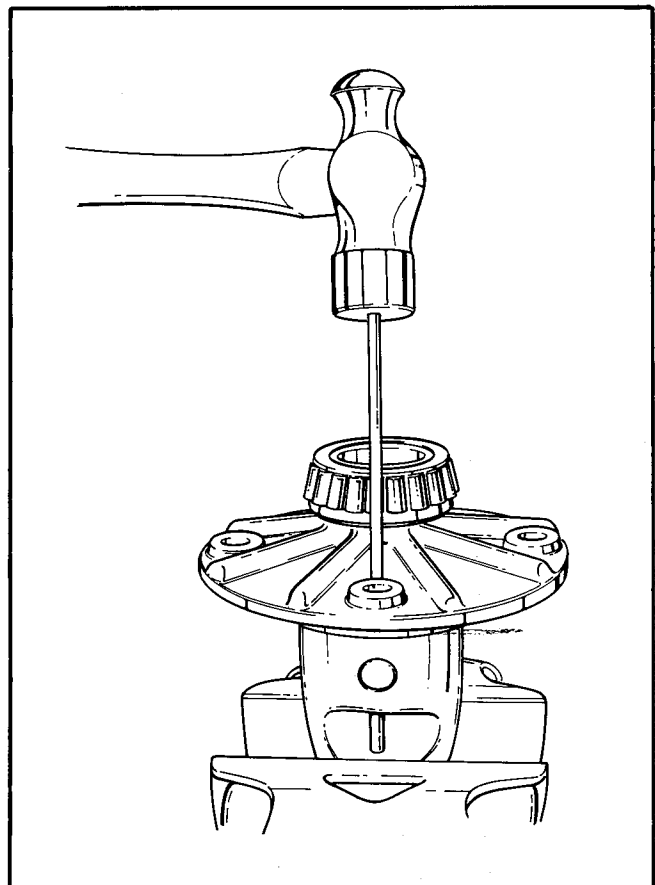

Figure 30 – Installing Lock Pin
- d. Align lock pin hole in pinion mate shaft (14) with hole in case and drive lock pin (9) to approximate center location of pinion mate shaft, Figure 30.